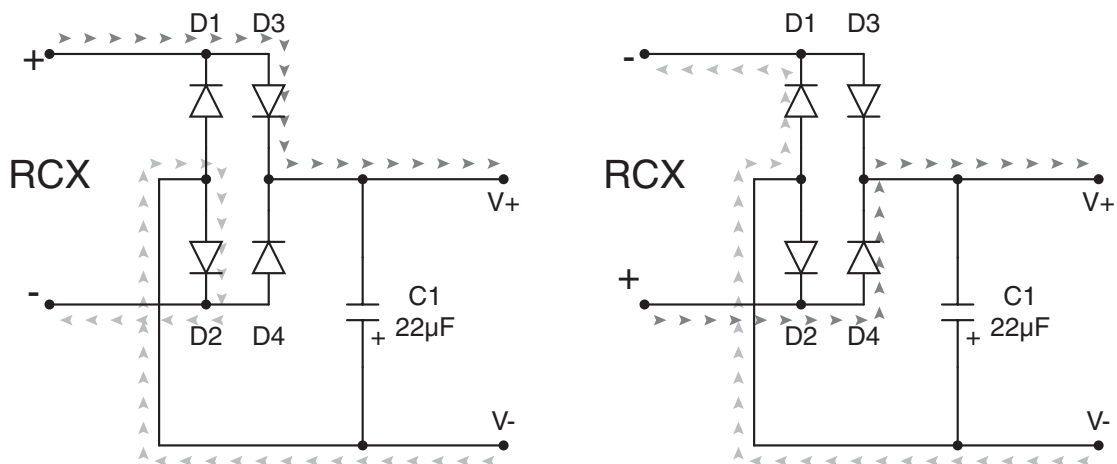

Figure 10-2. Current flow through the power circuit
The arrangement of four diodes is called a *bridge rectifier*, which is normally used to convert alternating current (AC) into direct current (DC). This may seem confusing because the RCX does not produce AC. The circuit is used here only so that the sensor will work regardless of how the LEGO connector wire is attached to the RCX. Imagine the positive terminal of the RCX attached to the top connector on the circuit diagram and the negative terminal attached to the lower, as shown on the left in Figure 10-2. Electrical current cannot flow into D1 because it is not oriented correctly, but it can flow into D3. The current then flows into whatever sensor circuitry you have and out through D2. If the RCX polarity is reversed, D4 and D1 pass the current.